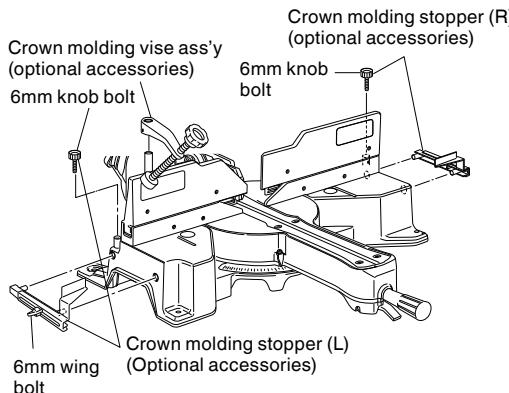

Fig. 46-a
(1) Crown molding Stopper (L) and (R) (optional accessories) allow easier cuts of crown molding without tilting the saw blade. Install them in the base both-sides side to be shown in Fig. 46-a. After inserting Tighten the 6mm knob bolts to secure the crown molding Stoppers.